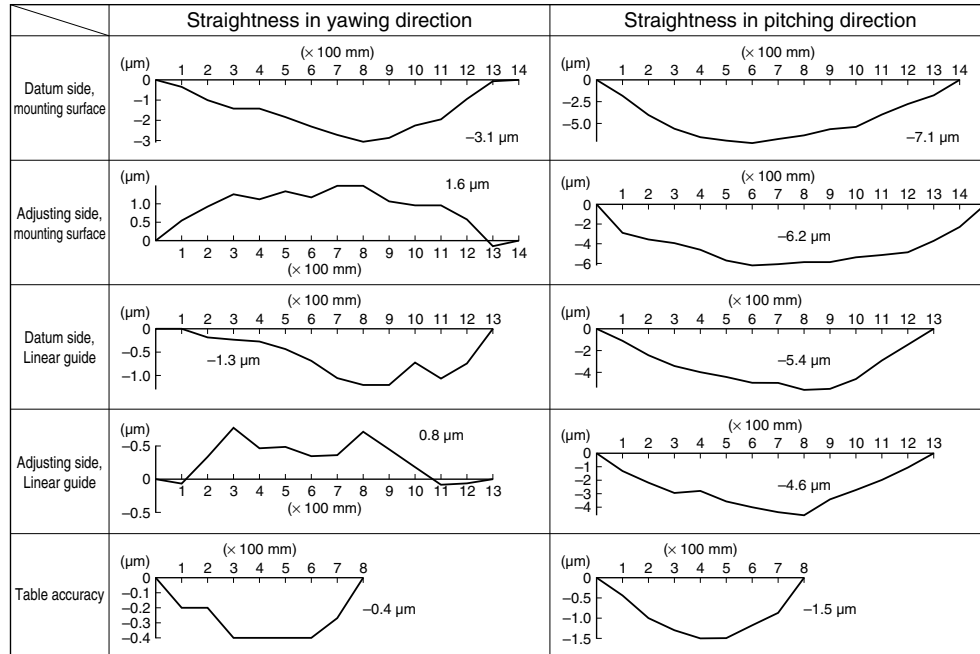

Fig. 10.9 Straightness of the table equipped with linear guide
• **Fig. 10.9** shows an actually measured straightness of the table which uses NSK linear guides. In this case, the final straightness of the table is about 1/5 of the straightness of the mounting surface.